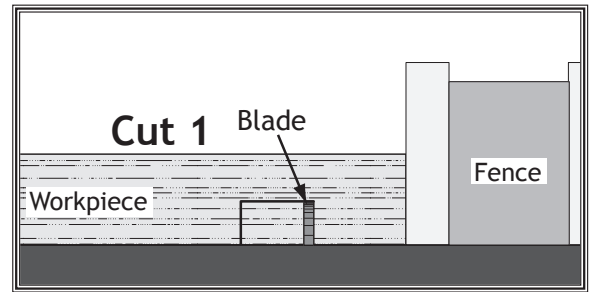

Figure 61. First cut for a single-blade dado.
5. Align blade to cut one side of dado, as shown in Figure 61.